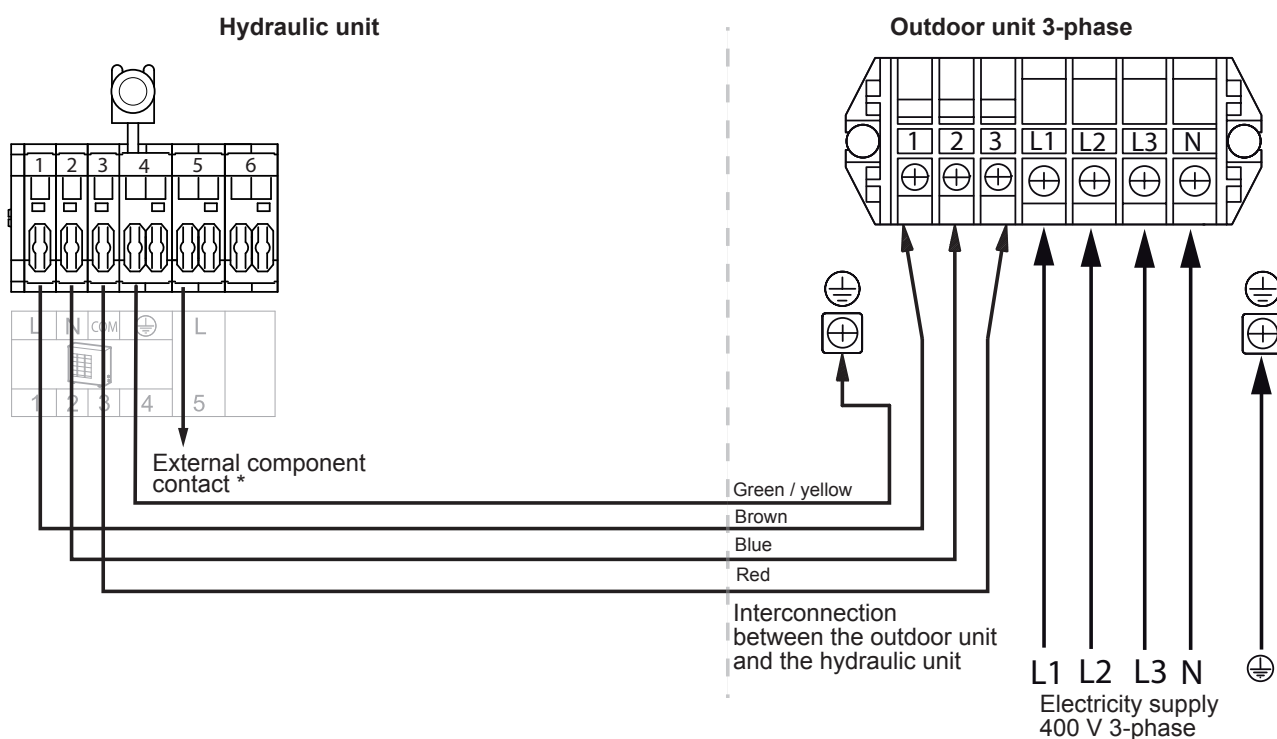

figure 33 - Connection to terminal block and power relays
- Make the connections in accordance with the diagram **figure 33, page 31**.
- Make the connections in accordance with the diagram figure 33, page 31.
- Make the connections in accordance with the diagram figure 33.